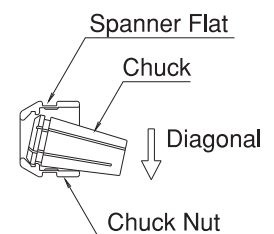

Fig.5
- ② The collet and chuck nut are held together by a groove in the collet and a flange in the chuck nut. To remove the collet hold the chuck nut in one hand and push diagonally down on the collet. (Fig.5)
- ③ Inset the new tool and tighten the collet by turning clockwise.